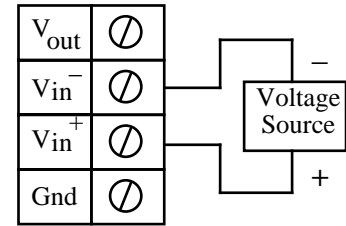

Fig 3.2 - Differential Voltage Measurement with One Signal Source.
3. Wire your voltage source per figure 3.2, and refer to the steps at the beginning of this chapter for more information on how to set up your sensor.